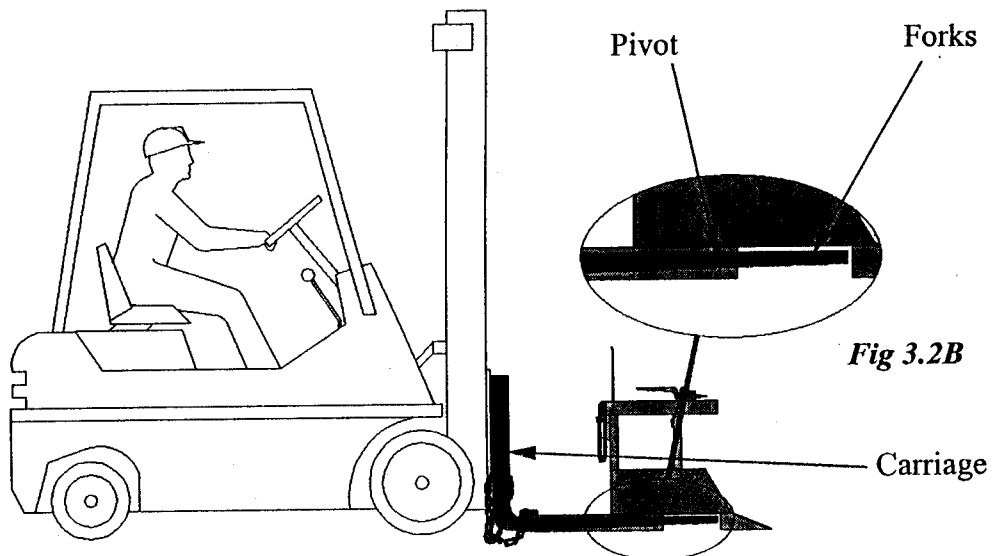

Fig. 3.2A
- b) Advance the Forklift to engage the tines as far as possible into the carriage shown in *Fig. 3.2A*. The ends of the fork must be in front of the NWB Wheelie Bin Tipper pivot as shown in *Fig. 3.2B*. The NWB Wheelie Bin Tipper is designed with the centre of gravity in front of the pivot with the natural motion of the attachment to tip forward. With the forks in this position, the NWB Wheelie Bin Tipper is safely supported and will not tip over.